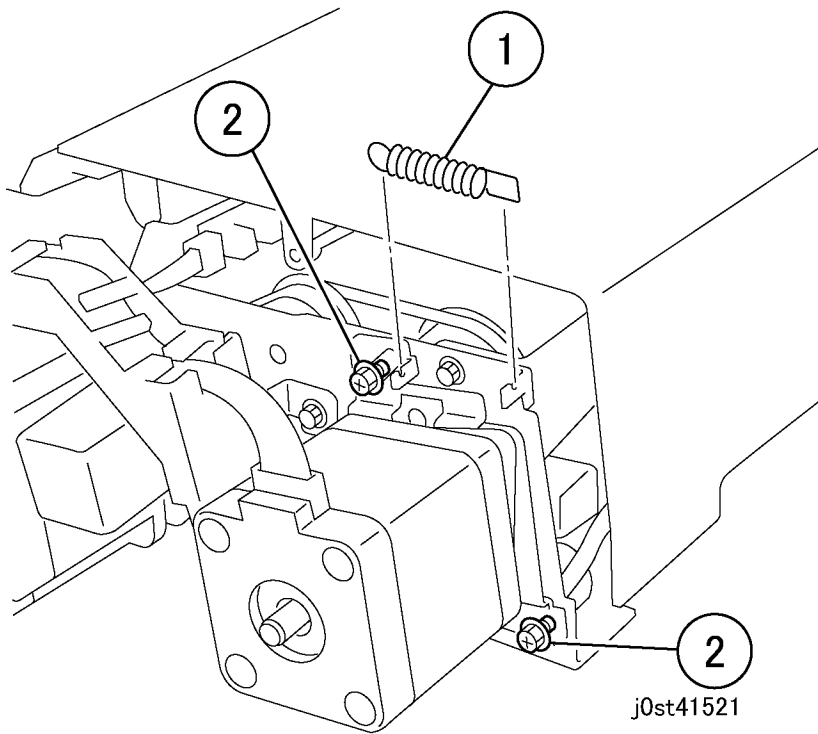

Figure 1 Loosening the belt tension
6. Loosen the belt tension on the DADF Registration Motor (Figure 1).